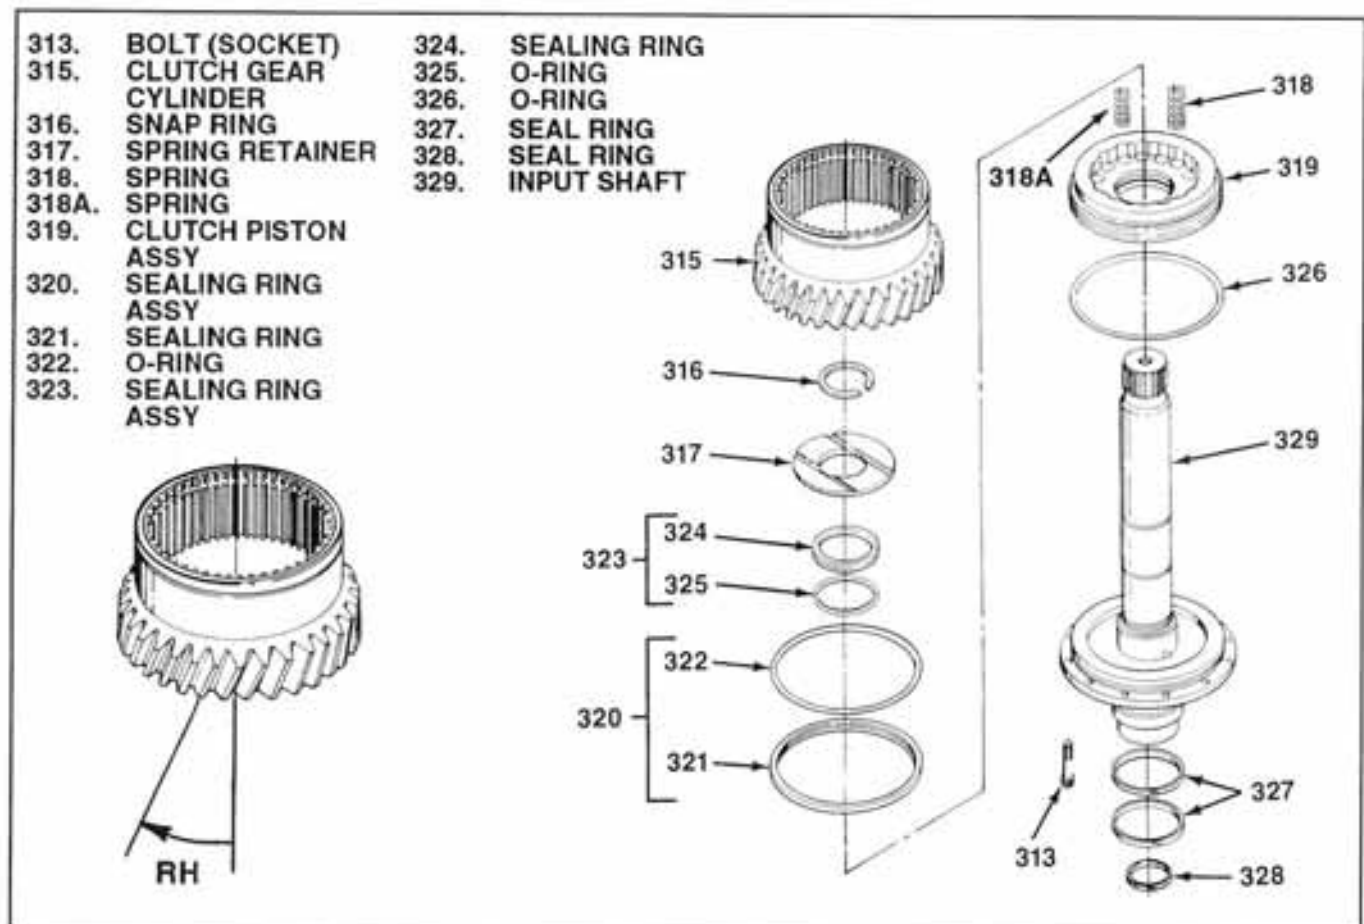

Figure 5-5. Input Clutch Cylinder and Piston
5-9. ASSEMBLY OF CLUTCH PISTON AND CYLINDER Assemble input clutch piston and cylinder as follows (see figure 5-5):
6. Install spring retainer (317). Expand snap ring (316) and slide onto shaft up against spring retainer (317).
7. Using assembly tool T-5001, press down on spring retainer (317) to compress springs (318, and if used 318A) and provide access to shaft groove for snap ring (316). Install snap ring in shaft groove. Remove shaft assembly, holding fixture and assembly tool from arbor press. Remove assembly tool from shaft assembly.
8. The helical on the input clutch gear must be right handed. That means the teeth must be inclined to the right when viewed from the face of the gear (see figure 5-5). If the incorrect helical (lay clutch) gear is installed there may be resulting damage to the rear lay shaft bearing.
9. Using guide pins install clutch gear cylinder (315) over clutch piston assembly (319) and onto input shaft (329). Install twelve bolts (313). Torque bolts to 16-18 lb-ft (22-25 Nm).